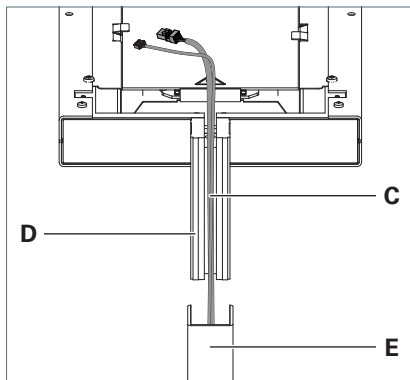

Fig. 15: Mounting the light head on the column.
- Guide the cables **C** from below into the groove in the support arm **D** at the light head and insert the support arm completely into the column **E**, see Fig. 15.